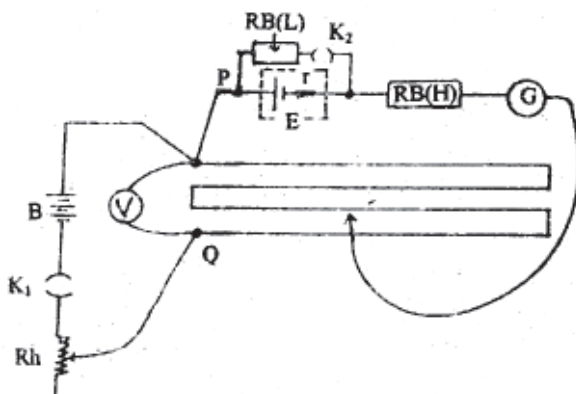

Fig. 23.3 : Circuit diagram of a potentiometer
- vi) In the circuit arrangement shown in Fig. 23.3 if l_2 , is the length of the potentiometer wire between the terminal P and the null point when the cell is in open circuit then
- (i) Clean the ends of the connecting wires with the sand paper and make tight connections as per the circuit diagram shown in Fig. 23.3.